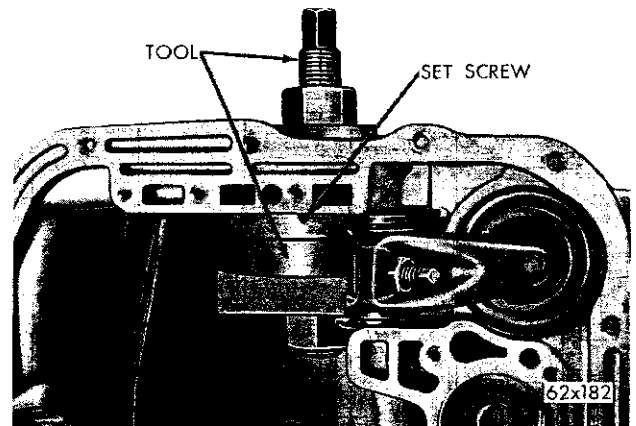

Fig. 78—Installing Overrunning Clutch Cam
(3) Clean all burrs and chips from the cam area in the case.
(4) Place the spring retainer on the cam, making sure the retainer lugs snap firmly into the notches on the cam.
(5) Position the cam in the case with cam serrations aligned with those in the case. Tap the cam **evenly** into the case as far as possible with a soft mallet.
(6) Install Tool C-3863, as shown in Figure 78, tighten nut on the tool to seat the cam into the case. Make sure the cam is firmly bottomed, then install the cam retaining set screw. Stake the case around the set screw to prevent it from coming loose.